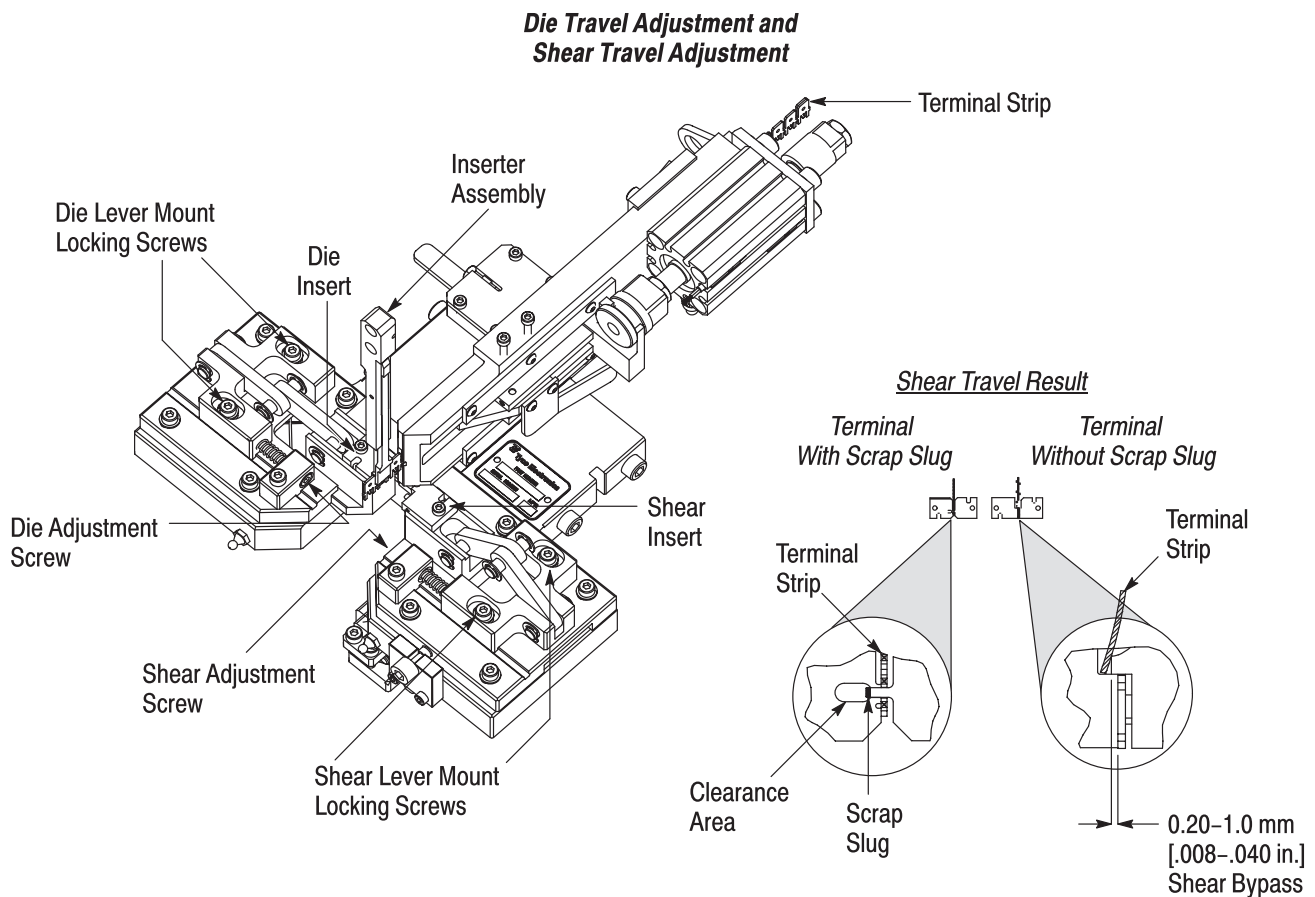

Figure 13
### 5.7. Die Travel Adjustment (See Figure 13)
### 5.8. Shear Travel Adjustment (See Figure 13)
- b. for terminals that do not produce a scrap slug, turn the screw one additional rotation after the terminal strip is sheared. The shear bypass should be within the dimension given in Figure 13.